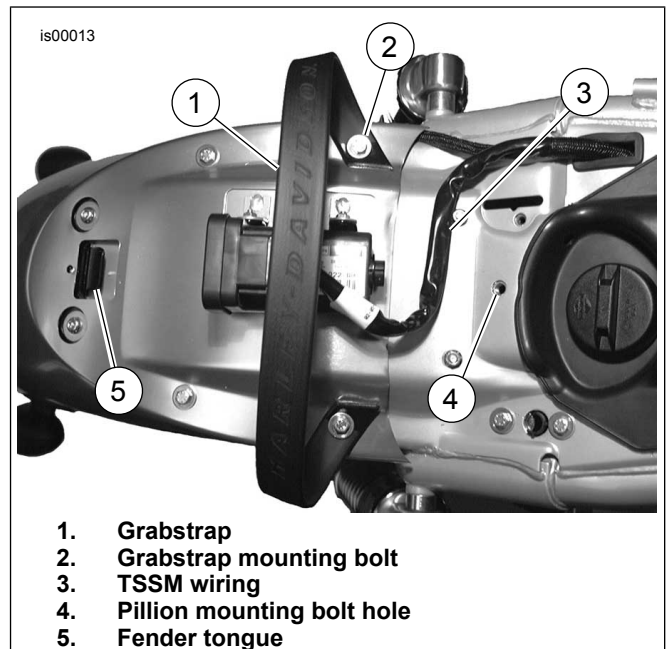

Figure 2. Pillion and Grabstrap Fastener Points
2. See Figure 2. Remove the two mounting bolts (2) from the passenger grabstrap (1). Save the bolts for installation.
3. See Figure 2. Install stock grabstrap bolt, and one end of grabstrap as shown. While holding the grabstrap end parallel to the formed line of the fender, tighten the bolt to 8–12 N·m (71–106 **in-lbs**). Repeat for opposite end of grabstrap.
4. Install new pillion into position through grabstrap. Prevent pinching TSSM control wiring by routing the cable through the channel on the underside of the pillion (see Figure 2) and away from the pillion mounting bolt. Pinched wiring may damage the TSSM system.
6. See Figure 2. Push down on the pillion and slide the pillion toward the rear to engage the pillion slot with the fender tongue (5). Push rearward until the pillion mounting holes align.
- a. See Figure 2. Remove the two mounting bolts (2) from the passenger grabstrap (1). Save the bolts for installation.
- b. See Figure 2. Install stock grabstrap bolt, and one end of grabstrap as shown. While holding the grabstrap end parallel to the formed line of the fender, tighten the bolt to 8–12 N·m (71–106 **in-lbs**). Repeat for opposite end of grabstrap.
4. See Figure 2. Push down on the pillion and slide the pillion toward the rear to engage the pillion slot with the fender tongue (5). Push rearward until the pillion mounting holes align.